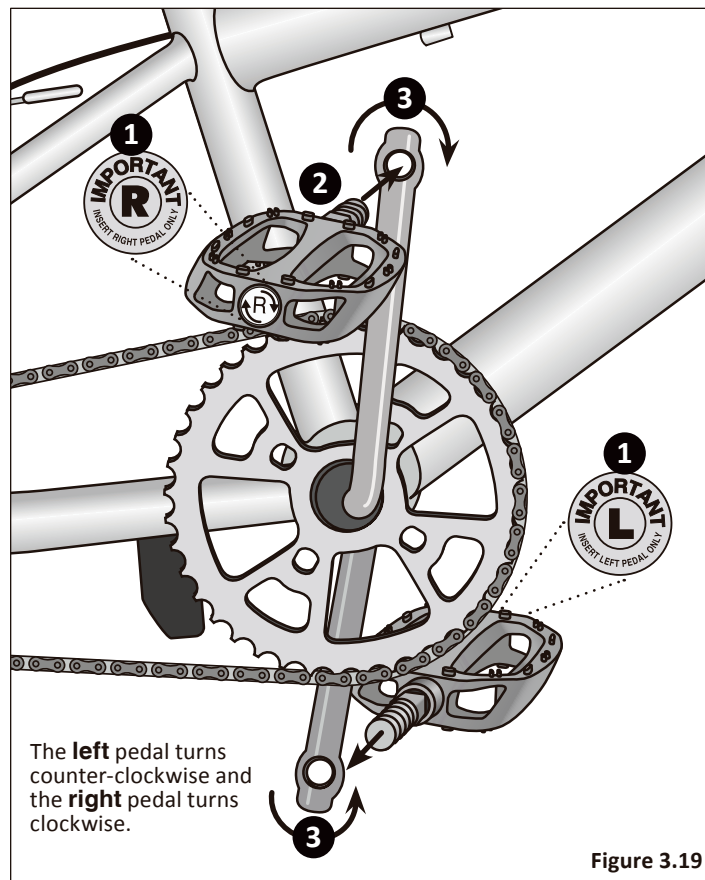

Figure 3.19
- 1 Match the pedal marked R with the right-hand crank arm and match the pedal marked L with the left-hand crank arm. **Figure 3.19**